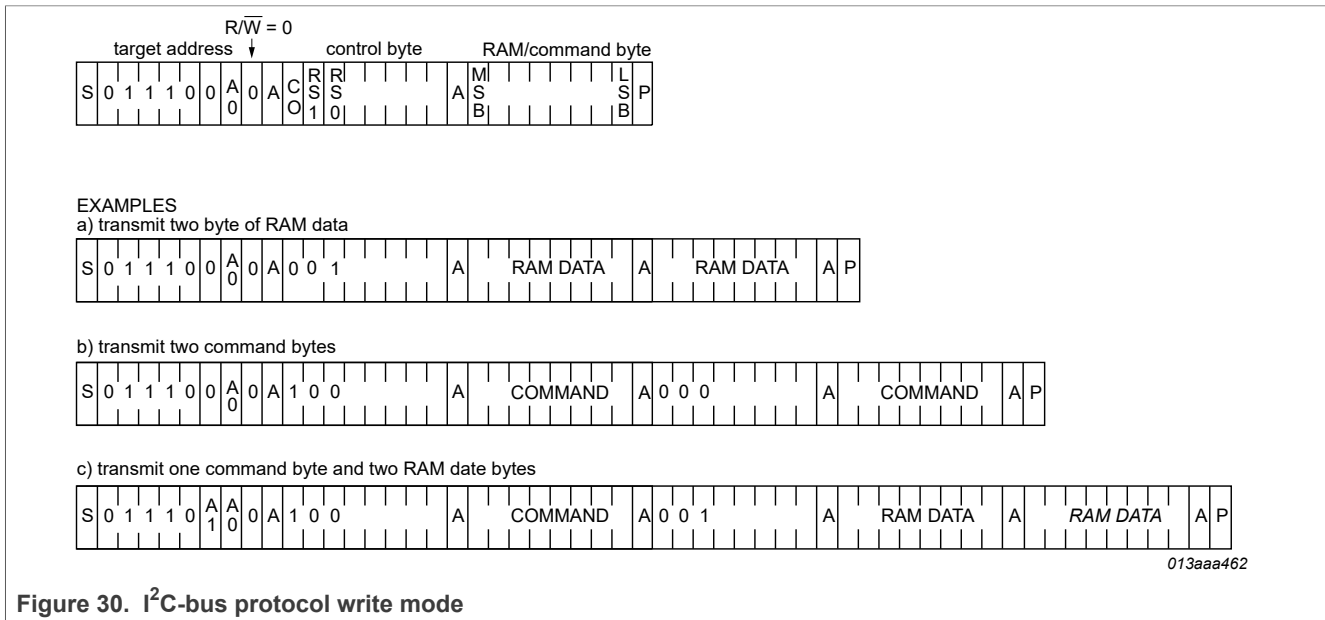

Figure 30. I2C-bus protocol write mode
The I2C-bus protocol is shown in Figure 30. The sequence is initiated with a START condition (S) from the I2C-bus controller which is followed by one of the two PCF8545 target addresses available. All PCF8545 with the corresponding A0 level acknowledge in parallel to the target address. But any PCF8545 with the alternative A0 level ignore the whole I2C-bus transfer.